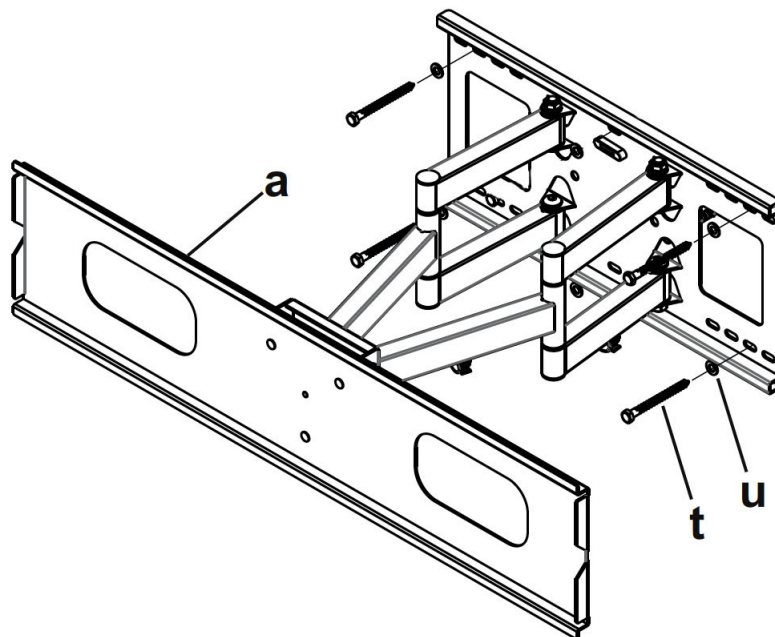

Figure 2
7. For each location, insert a lag bolt (t) and washer (u) into the wall. See Figure 2.